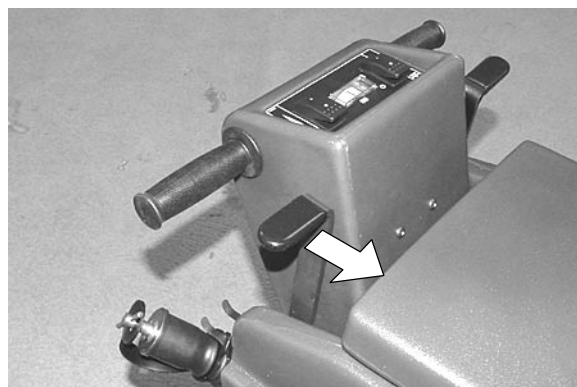

FIG. 13
5. Push solution flow lever forward to desired flow rate. Solution will immediately begin to flow once lever is activated (Figure 13).